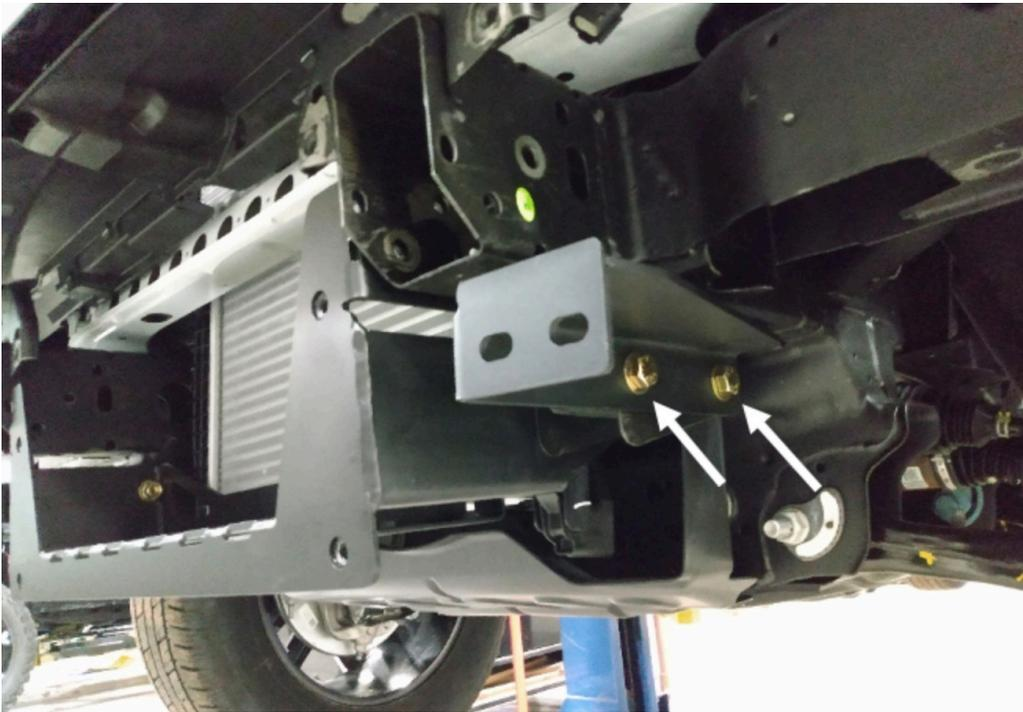

Figure 26
34. Using the four (4) provided 1/2"-13 x 4" bolts, flat washers, lock washers, and nuts, install the provided winch tray (Part#: 22985) and frame gussets (DS Part#: 22838, PS Part#: 22839) through the under-run guards on the bottom of the frame rails. Figure 26